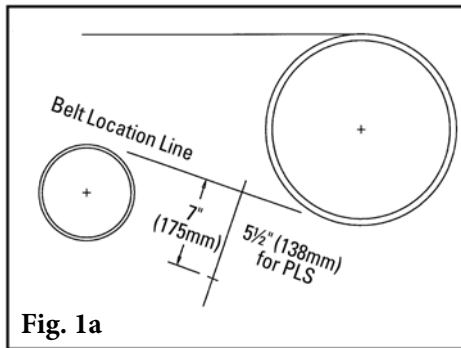
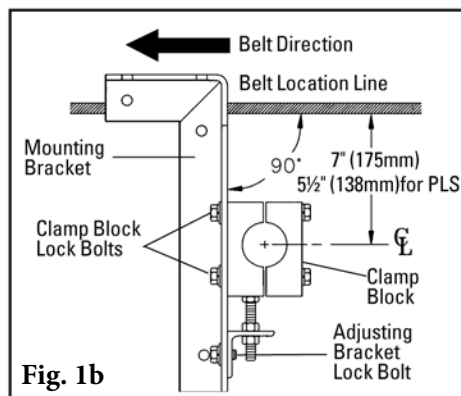

Fig. 1a
Fig. 1b
For chute mounting: For a chute installation a belt location line must first be established. Draw a line on the chute replicating this location. If head pulley and snub pulley are close, it may be necessary to assume an approximate belt line between the two. In the determined location draw a line perpendicular to the belt line. Make a mark on this line 7" (175mm) (5-1/2"/138mm for PLS) below belt location line (Fig. 1a). Locate a mounting bracket along this line allowing the centerline of the clamp block to align with this 7" (175mm) (5-1/2"/138mm for PLS) mark (Fig. 1b). To move the clamp blocks, if necessary, loosen the clamp block lock bolts and the adjusting bracket lock bolt and move the clamp block to a position where the center of the hole is 7" (175mm) (5-1/2"/138mm for PLS) below the bottom of the belt. Bolt or weld in place. Repeat this step on the opposite side. On one side an access hole may be required (Fig. 1c). **NOTE:** The brackets must be aligned perpendicular to the belt.
- Loosen the top adjusting bolt jam nuts 1" (25mm) on the top of the adjusting brackets (Fig. 1a).
- Loosen the clamp block lock bolts on both sides and allow the pole to move down and rest on the raised top adjusting bolt jam nuts (Fig. 1b).